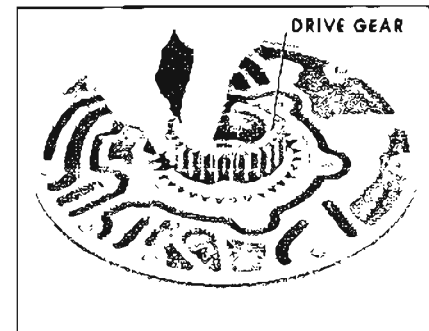

Figure 5-187
6. Remove oil pump drive gear. See Figure 5-187.